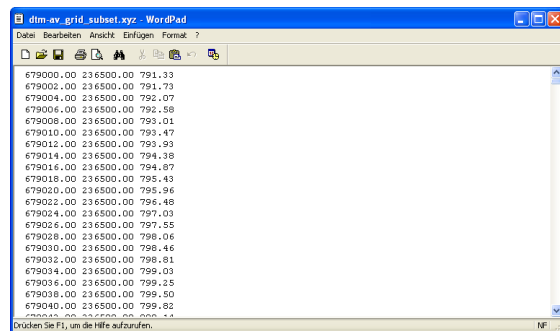

Figure 4.3: Example ASCII X,Y,Z single space data.
- ASCII X,Y,Z single space data (Fig. 4.3)